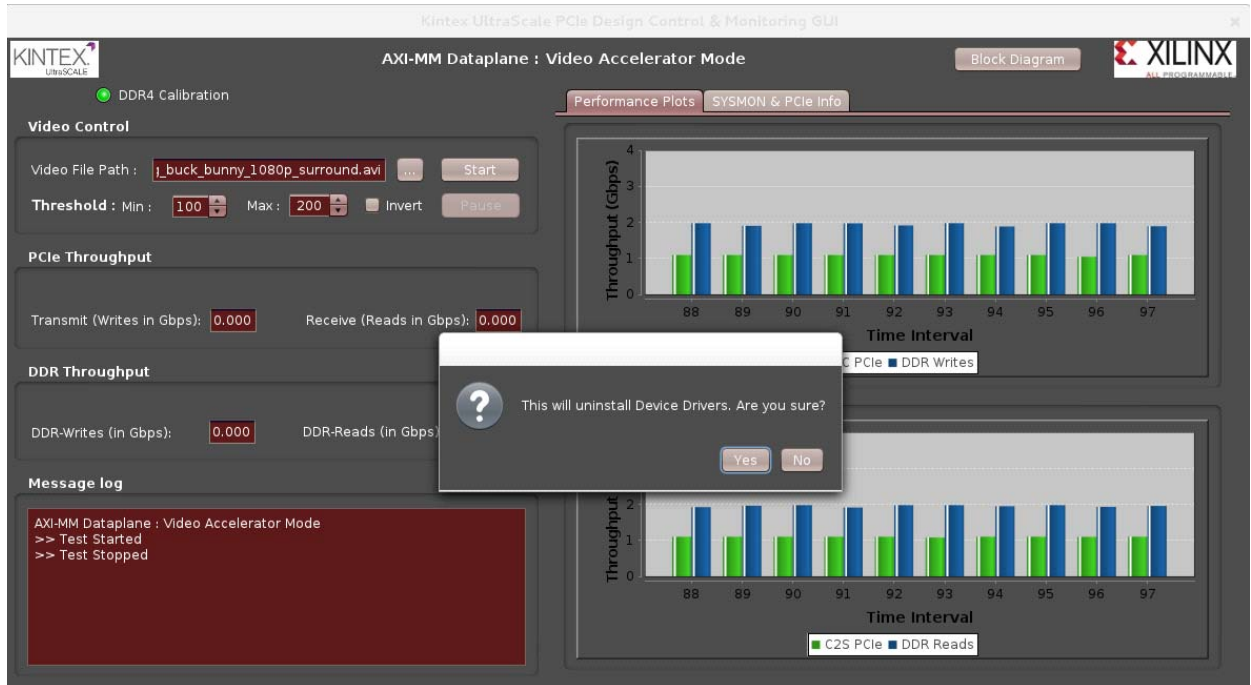

Figure 5-15: Uninstalling Device Drivers for Video Accelerator Design
- Close the block diagram and click **Stop** in the Video Control panel to stop the test. Click on **x** mark on top right hand corner to close the Video Accelerator GUI. The drivers are uninstalled (click **Yes** at the prompt as shown in Figure 5-15) and the TRD Setup screen (Figure 3-8, page 24) is displayed.